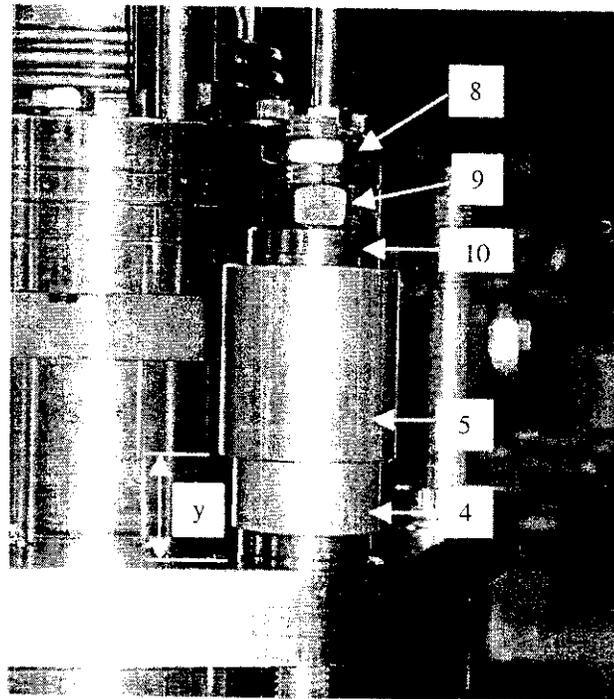
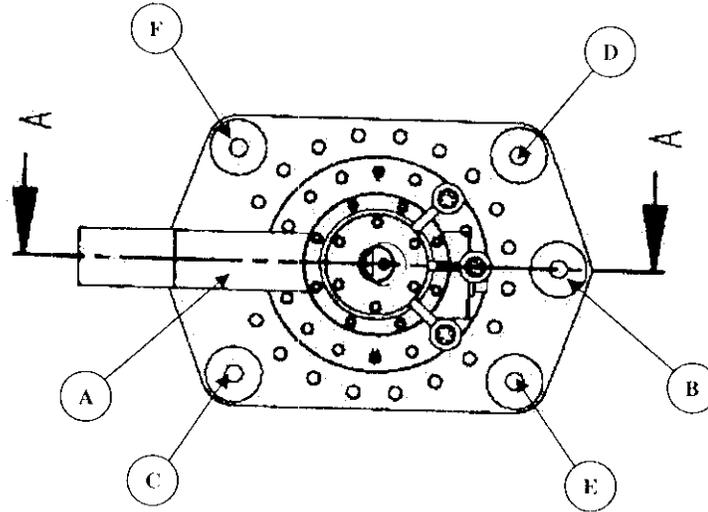

Figure 1.28a An installed Belleville Washer Assembly.
Figure 1.29.1.5 The specified sequence for tightening the Belleville Washer Assemblies.
- 1.28 Install Belleville Washer Assemblies on each tensioning stud per Figures 1.28a and 1.28b. A spherical washer must be placed below the Belleville washer holder on each stud. In the figures: Items 11 (10 each) are Belleville Washers, arranged as shown; Items 6 (2 each) are flat washers; Items 4 and 5 are the Belleville Washer Holder; Item 10 are Spherical Washers for above and below the washer holder; Item 9 is a loading nut; and Item 8 is a jam nut.
- 1.29.1.2 Tighten the 6 loading nuts finger-tight. With adjustable parallels, measure and record the gap "y" indicated in Figure 1.28a between Item 5 and the current lead top flange at the 6 locations specified in Figure 1.29.1.5. Units are mm.
- 1.29.1.4 Using the sequence A through F in Figure 1.29.1.5, tighten the loading nuts ¼ turn until the total compression is 1.8 mm at each of the six locations. As each loading nut is tightened ¼ turn, check off the appropriate line.
1.29.1.5 Record the final measured gaps 'y' in Figure 1.28a. Units are mm.
1.29.2.2 Tighten the 6 loading nuts finger-tight. With adjustable parallels, measure and record the gap "y" indicated in Figure 1.28a between Item 5 and the current lead top flange at the 6 locations specified in Figure 1.29.1.5. Units are mm.
1.29.2.4 Using the sequence A through F in Figure 1.29.1.5, tighten the loading nuts ¼ turn until the total compression is 1.8 mm at each of the six locations. As each of the loading nuts is turned ¼ turns, check off the appropriate line.
1.29.2.5 Record the final measured gaps 'y' in Figure 1.28a. Units are mm.